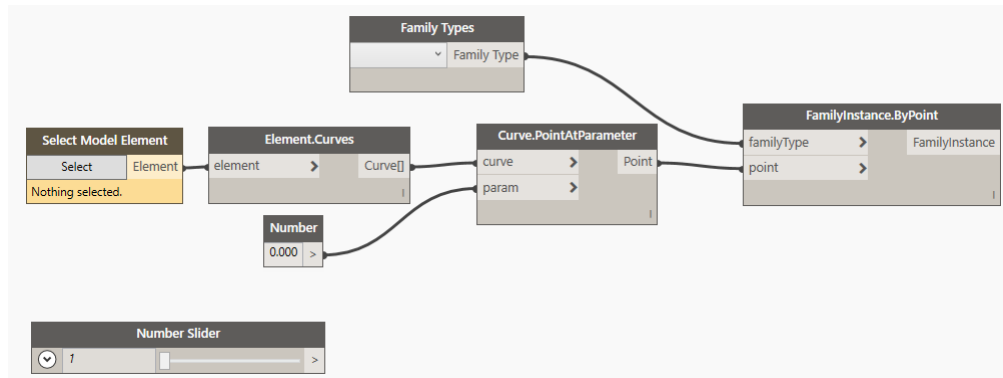

FIGURE 30
5. Position the nodes and wire them as indicated in Figure 30.